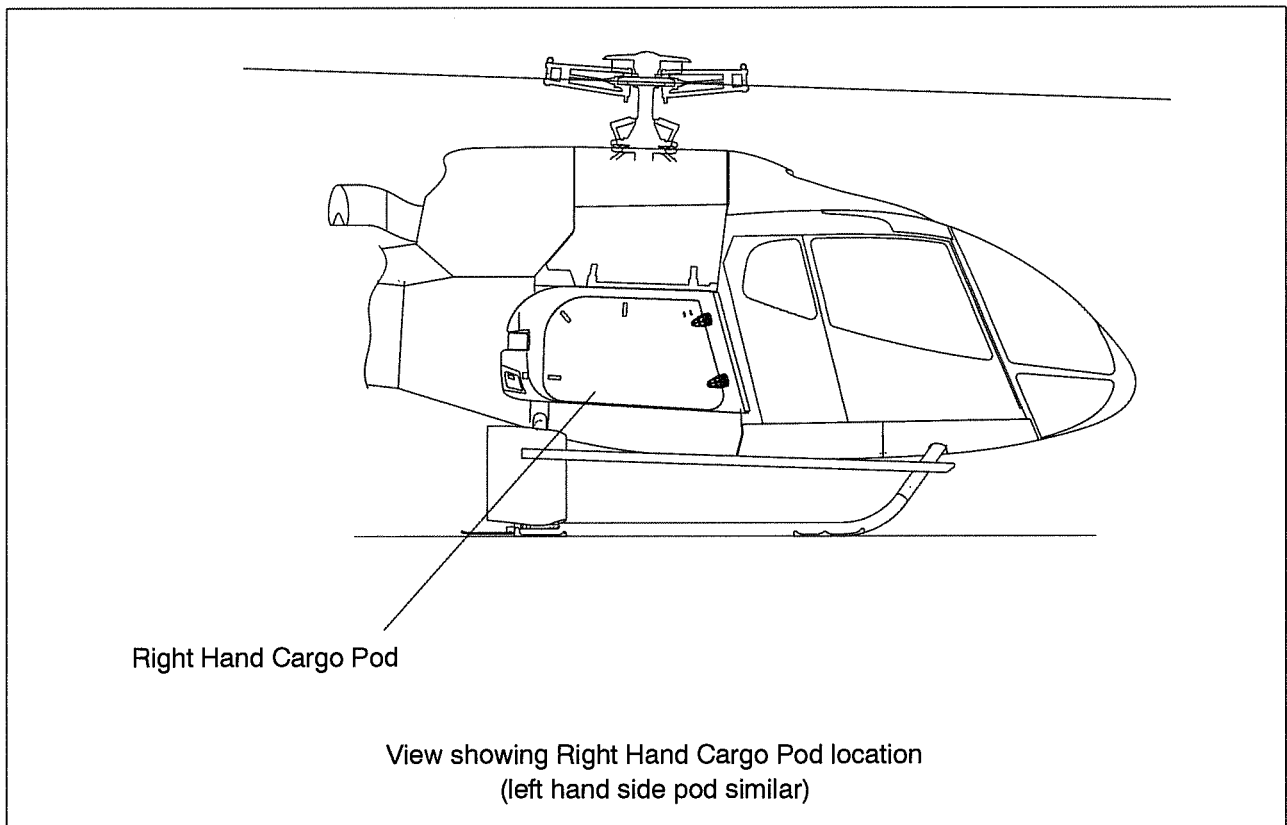

Figure 1 General Layout
- A. The subject Cargo Pods Installation comprises two large, lightweight pods which provide an increase in cargo bay capacity. The forward opening door allow for easy cargo handling. The Cargo Pods also have a non-slip surface on the top and can support the weight of a person. Refer to Figure 1.